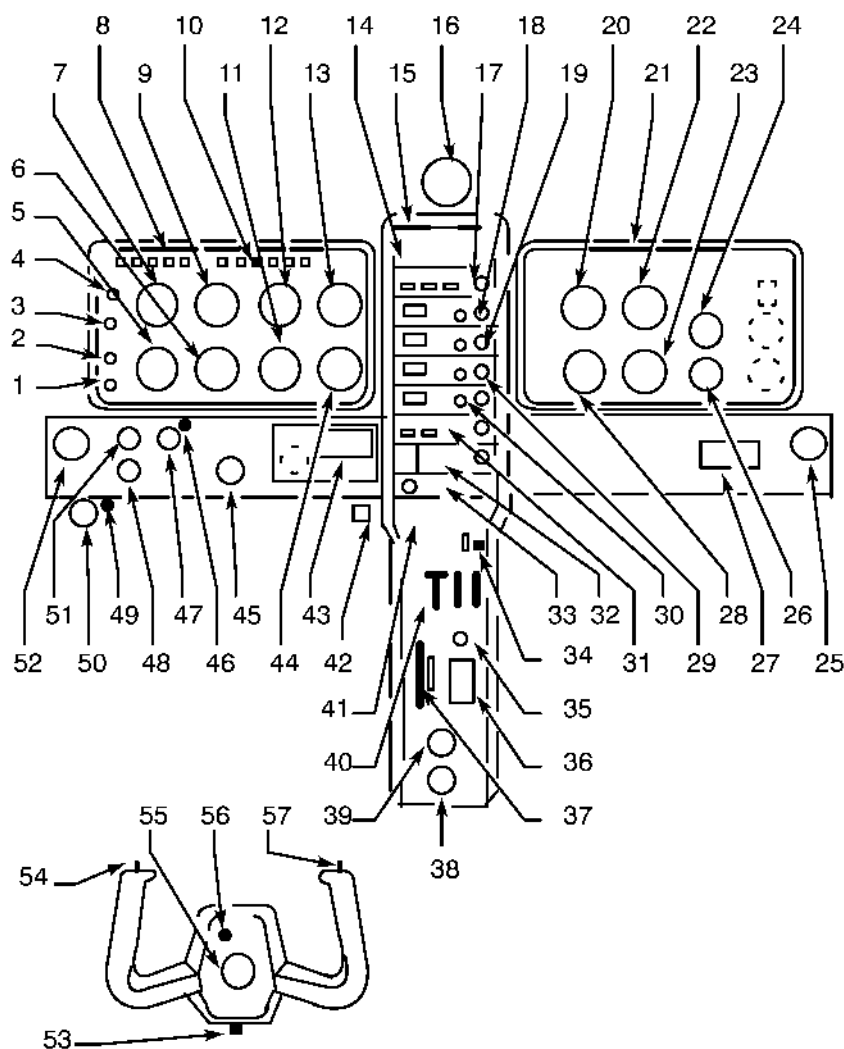

Figure 9.1.3 - EXAMPLE OF INSTRUMENT PANEL " IFR "
- See Figure 9.1.3.
- Front overhead lights controlled by turning post lights and regulated by the "Emergency" control. See Figure 9.1.3.
- Front overhead lights controlled and regulated by the "Emergency" control. See Figure 9.1.3.